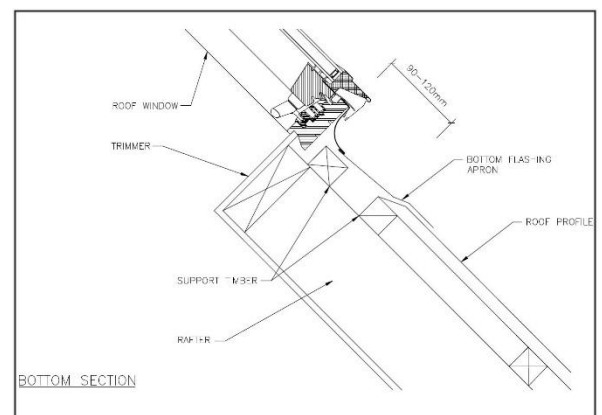
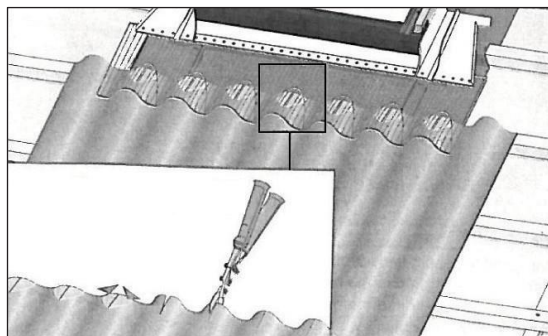

Fig 2
Fig 11
- 2) The skylight must be installed above a complete row of tiles for concrete or pressed metal. On a new corrugated roof install the skylight above a horizontal lap. In the case of corrugated sheets, it is recommended that the upper edge of the bottom sheet be cut or flattened at an angle so that there are no sharp edges which could tear the lead flashing (Fig 2).
- 90mm - 120mm for concrete tiles (Fig 2).
- 90mm - 120mm for corrugated sheets (Fig 2).
- 15) See Fig 11: Fit the bottom sheet of iron, first making sure it is 90-120mm away from the bottom edge of the skylight timber frame (see Fig 2).
- 16) You will need to cut and fold the top of the bottom sheet of iron where the mat laps over the iron, to allow the mat to sit flat on the iron. NOTE: It is important to do this, to prevent creating a catchment area. Ensure there are no jagged edges that may rip the mat (Fig 11).